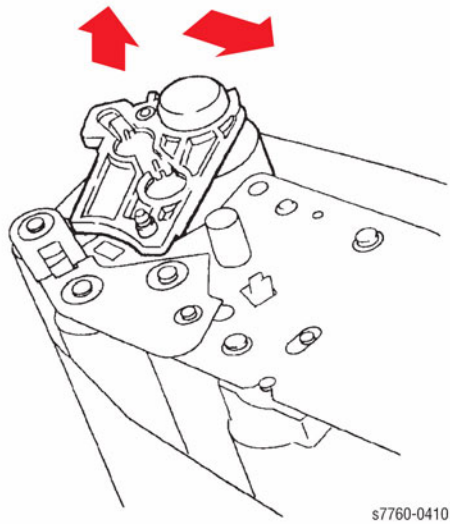

Figure 8 Pulling Out BUR Housing
11. Pulling out the Back Up Roll (BUR) Housing (Figure 8).